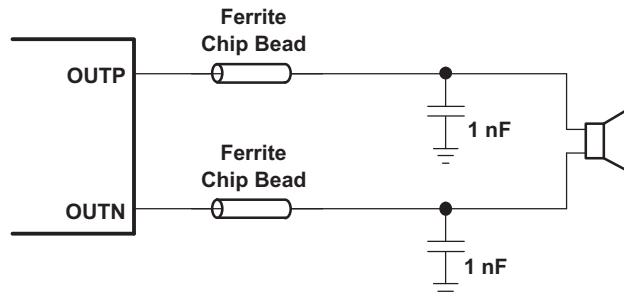

図 22. Typical Ferrite Chip Bead Filter (Chip Bead Example: NFZ2MSM series from Murata)
- **Output filter**—The ferrite EMI filter (图 22) should be placed as close to the output pins as possible for the best EMI performance. The capacitors used in the ferrite should be grounded to power ground.